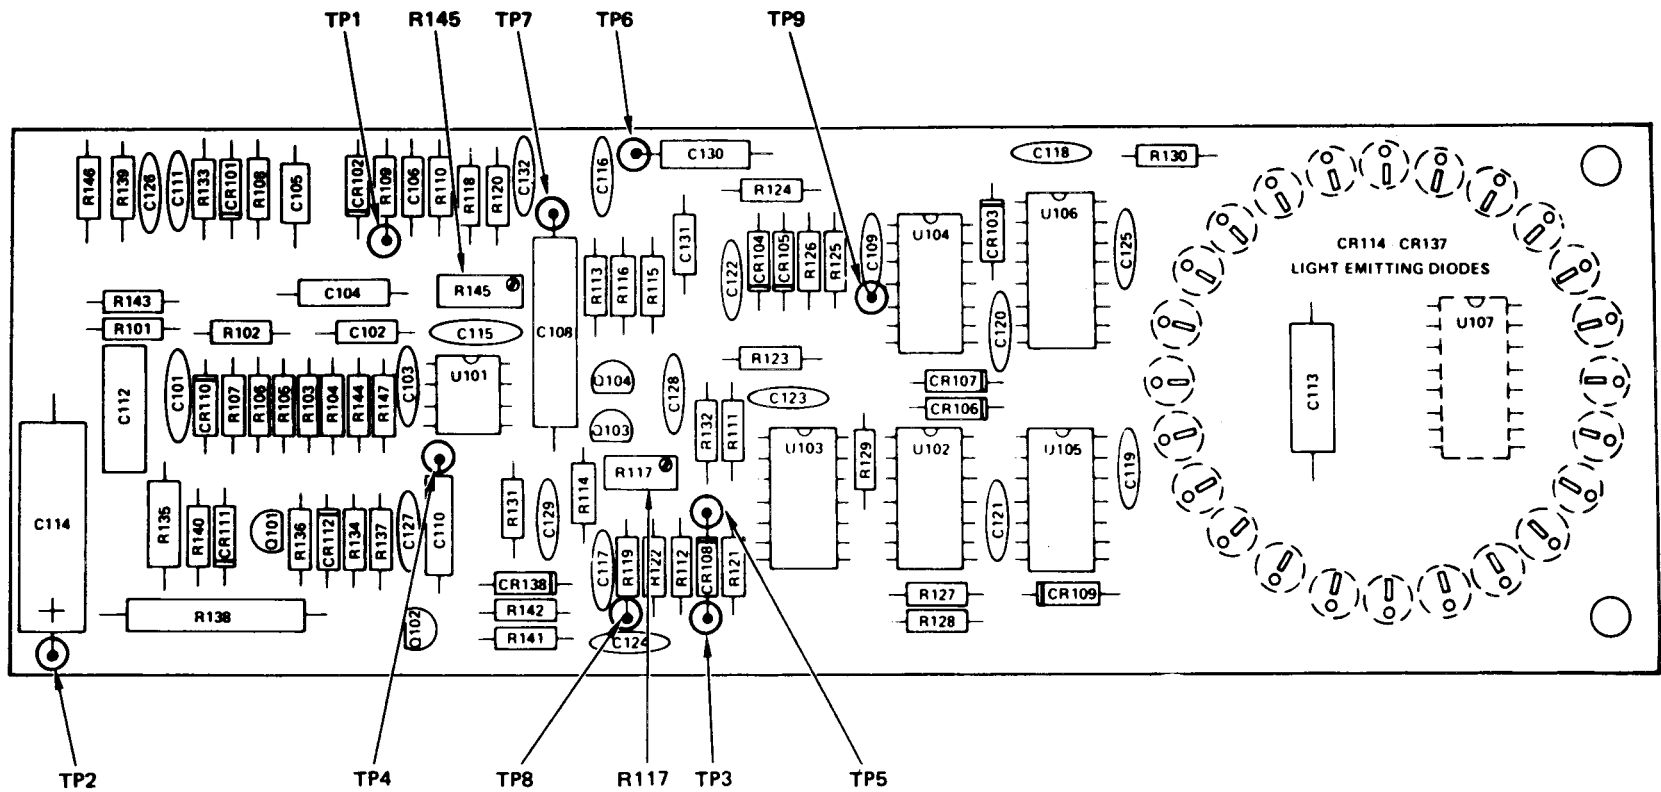
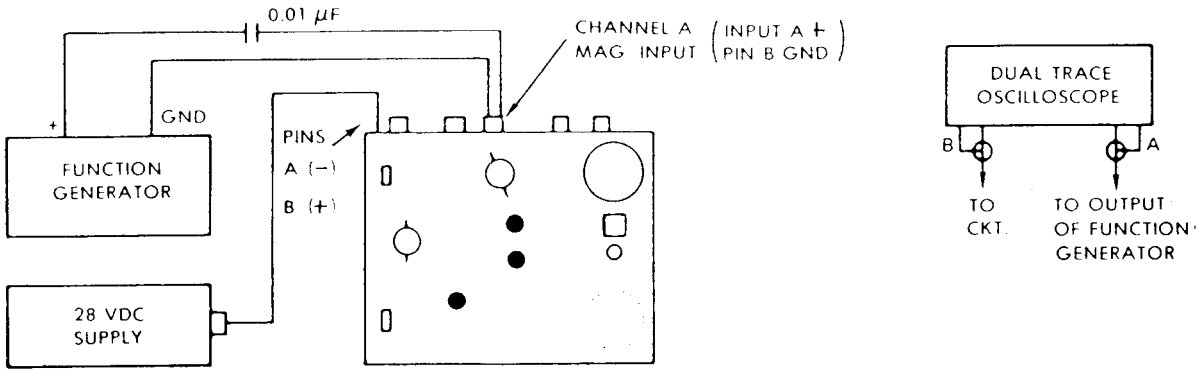

Figure 4-7. Phazor Test Points and Adjustments
Figure 4-8. Phase - Lock Loop Test Setup
a. Perform Phazor resistance checks as applicable with Table 4-4. Figure 4-7 shows the location of Phazor test points.
(1) Connect +28 vdc power supply only to Balancer as shown in Figure 4-8.
(2) Use VOM to measure voltages at test points in Table 4-5.
(1) Connect Balancer and test equipment as shown in Figure 4-8.
(2) Set FUNCTION switch A, R.P.M. RANGE switch to X10, and INTERRUPTER LOGIC switch to SINGLE.
(3) Connect oscilloscope to function generator output and set up function generator for a square wave output of 600 m. peak-to-peak at 41.7 Hz ± 1 Hz.
(4) Disconnect oscilloscope from function generator and connect to TP3 (Figure 4-7). Verify that oscilloscope indication is a + 5 volt spike at 41.7 Hz. (TEST switch depressed).
(2) Set FUNCTION switch to A, R.P.M. RANGE switch to X10, and INTERRUPTER LOGIC switch to SINGLE.
(3) Connect signal input A of function generator. Trigger oscilloscope from function generator.
(4) Set up function generator for a square wave output of 600 mV peak-to-peak at 41.7 Hz.
(5) Connect oscilloscope input B to TP4 (Fig. 4-7). Verify the oscilloscope indication is +10 volts, +1.0 vdc with a negative going pulse coincident with the square wave input rising edge.
(6) Connect oscilloscope input B to TP5 (Fig. 4-7). Verify that oscilloscope indication is similar to TP4.
(7) Set INTERRUPTER LOGIC switch to DOUBLE. Verify that pulses at TP5 disappear. Rest INTERRUPTER LOGIC switch to SINGLE.
(8) Connect oscilloscope input B to TP6. Verify that oscilloscope indication is 24 sawtooth ramp signals for each input square wave and that bottom of ramp is approximately +1.5 volts and peak is approximately +5 volts. The amplitude of the cycle prior to the positive-going edge of the square wave should be approximately 75% of the amplitude of the rest of the cycles.
(9) Connect oscilloscope input B to TP7 (Fig 4-7). Verify that oscilloscope indication is $+8 \pm 1$ vdc with a 30 mV peak-to-peak triangle waveshape riding on it. The triangle wave and the input square wave are phased as follows: negative ramp of triangle simultaneous with negative half of input square wave.
(10) Set frequency of function generator to 150 Hz. Verify that delevel at TP7 changes to $+4 \pm 1$ vdc.
(11) Connect oscilloscope input B of TP8 (Fig. 4-7). Set frequency of function generator to 16 Hz. Verify that 5-volt square wave at TP8 is in phase with input square wave.
(12) Set frequency of function generator to 166 Hz. Verify that square wave at TP8 changes to 166 Hz and is in phase with input square wave in approximately 5 seconds.
(13) Connect oscilloscope input B to TP9 (Fig. 4-7).
(14) Set frequency of function generator to 55.5 Hz. Verify that wave from at TP9 is a 4-volt square wave at twice input frequency. Square wave is 0 volts for 3 ms and 4 volts for 6 ms. This two-to-one ratio exists for all frequencies from 16 to 166 Hz.